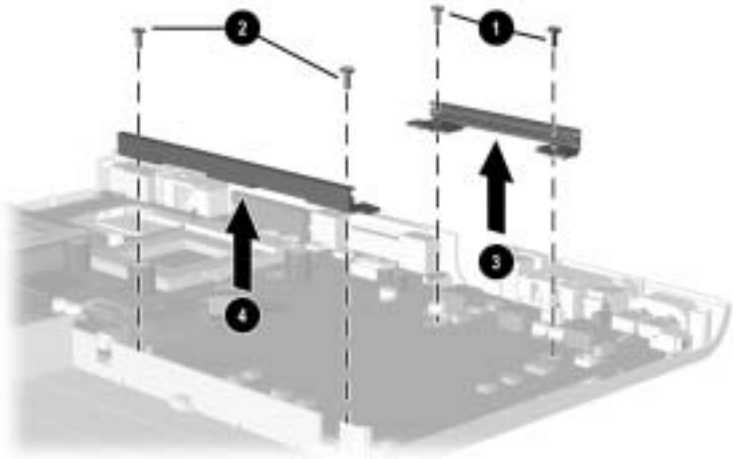

Figure 5-42. Removing the Optical Drive Alignment Rails
2. Remove the two TM2.5 × 5.0 screws ❶ that secure the optical drive rear alignment rail to the base enclosure (Figure 5-42).
3. Remove the two TM2.5 × 5.0 screws ❷ that secure the optical drive rear alignment rail to the base enclosure.
4. Remove the rear alignment rail ❸ from the base enclosure.
5. Remove the rear alignment rail ❹ from the base enclosure.